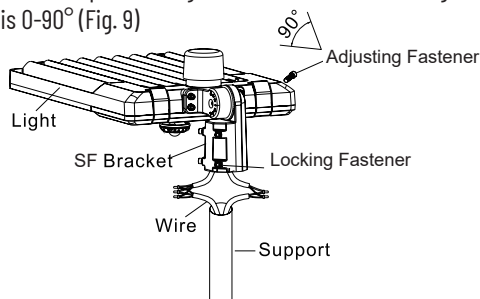

Figure 9
Step 1: Loosen the four bolts on Slip Fitter bracket, connect the fixture wires to the correct supply conductors, and pull the wires into the poles. (Fig. 9)
Notice: Adjustable angle is 0-90° (Fig. 9)